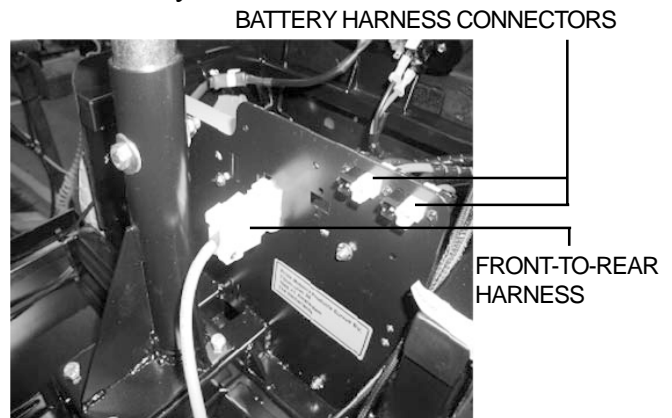

Figure 20. Front-To-Rear Harness
5. Unplug the large, white, 9-pin front-to-rear connector. See figure 20.
6. Unplug both battery harnesses from the battery harness connectors. See figure 20.